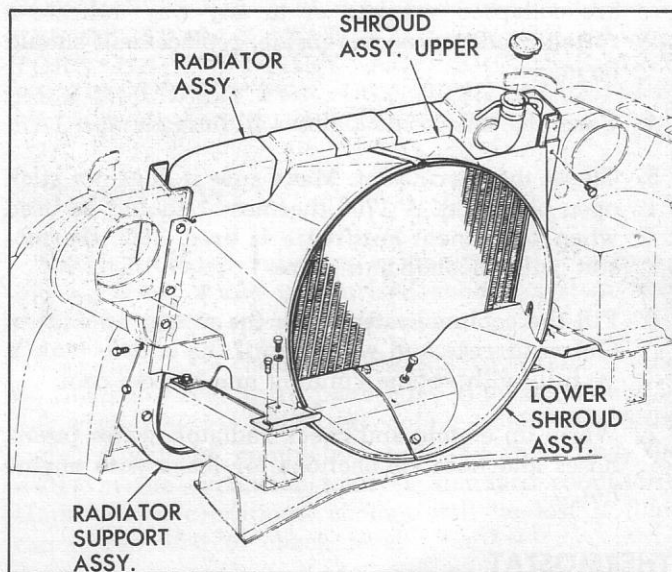

Fig. 4—Two-Piece Lower Shroud
- a. 3 screws on 2-piece unit (Fig. 4).
- a. Separate 2-piece shroud to remove it (fig. 4).